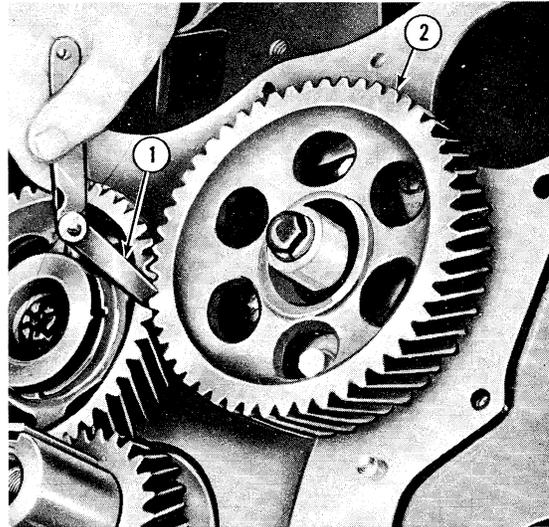

Figure 17
2. Remove the front cover and measure the backlash between the timing gears in four equidistant places, Figure 17, prior to removal, see Chapter 4 for tolerance.